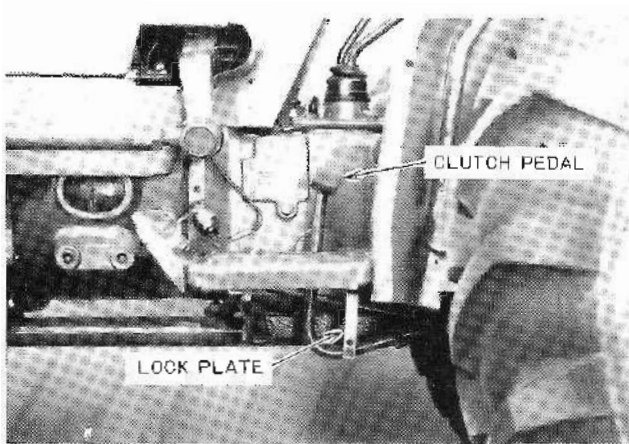

Figure 71 — Setting the Lock Plate of Clutch Pedal
10. Set the lock plate after depressing the clutch pedal completely to separate the clutch disc from the fly wheel, Figure 71.
5. Disengage the lock plate of clutch pedal by depressing the clutch pedal rapidly, Figure 71.